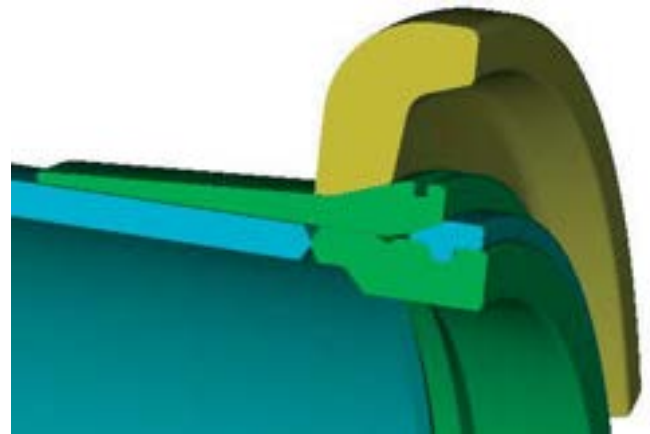

FIGURE 4
- Entire 5 degree area of the bead seat band where the tyre bead will contact during the seating procedure (See figure 4).